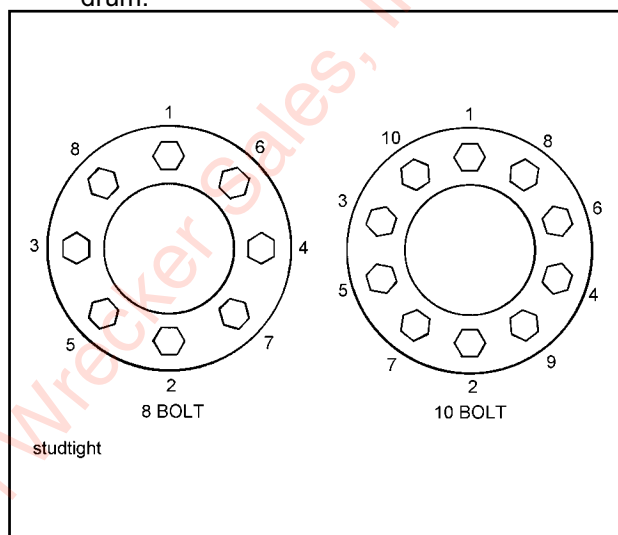

Figure 4-20 Stud Tightening Sequence
- d. Install the flange nut and tighten to 50 foot-pounds using the sequence in Figure 4-20. Then tighten to full torque of 500 to 550 foot-pounds.